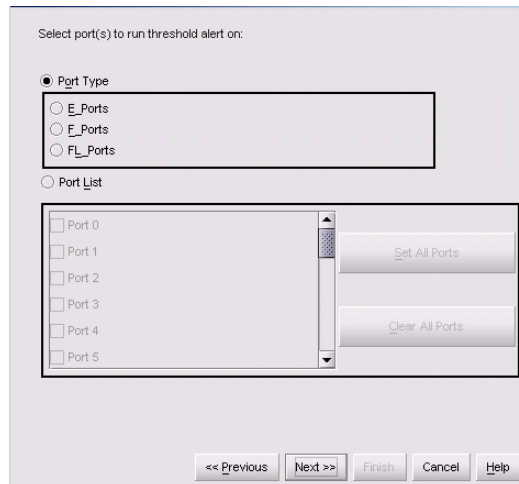

Figure 47: New Threshold Alerts dialog box - third screen (Edge Switch 2/24)
9. Click **Next**. A new screen displays for choosing ports for the alerts, as shown in Figure 47.